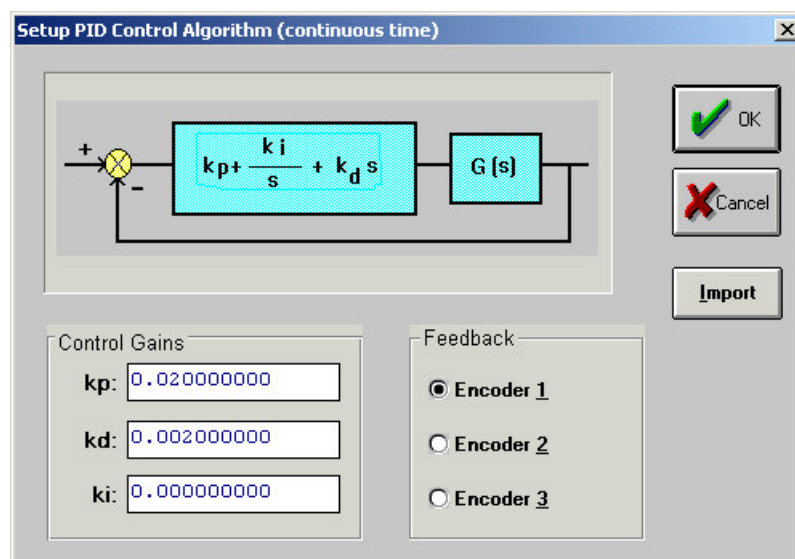

Figure 5: Setup PID Control Algorithm (continuous time) window
3. Click on the **Setup Algorithm** button to set up the PID control algorithm and a window similar to Figure 5 will appear.